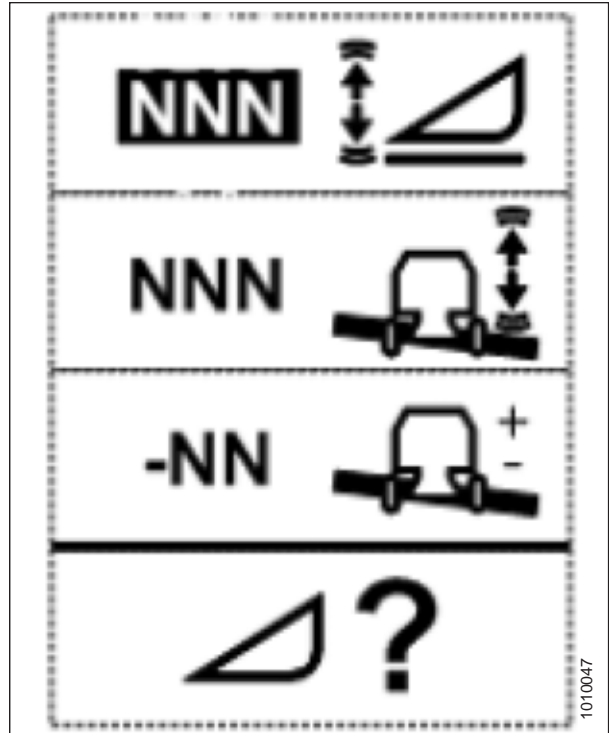

Figure 3.200: Height Sensitivity Change Page
1. Use HEADER SETTINGS key (A) to display the HEADER SENSITIVITY CHANGE page as shown in Figure 3.200, page 152.
2. Use UP key (B) or DOWN key (C) to adjust the highlighted item. The height sensitivity setting range is 0 (least sensitive) to 250 (most sensitive) in increments of 10.